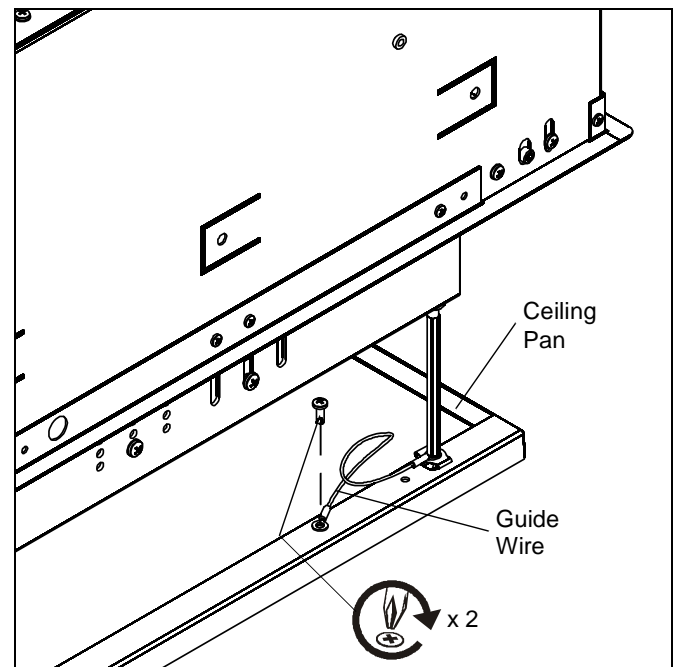

Figure 14
3. Reattach guide wires (two places) to ceiling pan, using screws removed earlier. (See Figure 14)